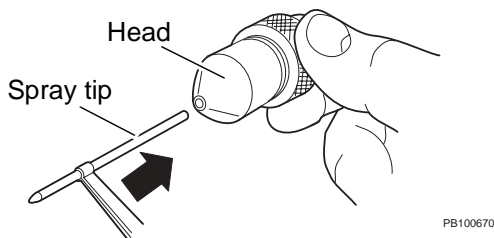

Figure 4-6 Inserting a New Spray Tip
2. Insert the non-tapered end into the front of the nanospray head until 2.5 to 3 cm of the tapered end extends from the front of the spray head (Figure 4-6).